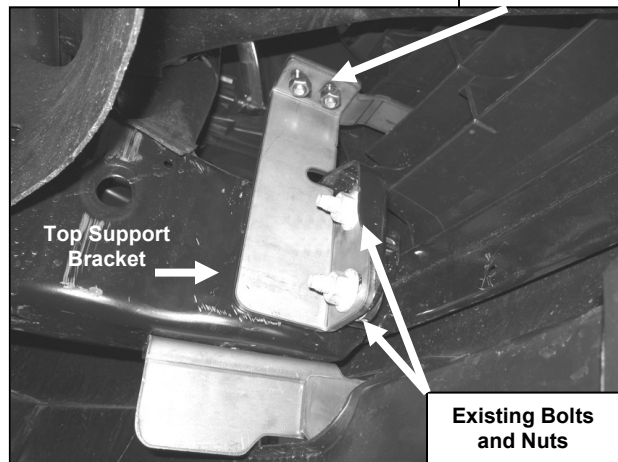

Figure 2
6. From underside of vehicle, remove the two existing nuts from the inner side of front bumper mounts. Position driver side Top Support Bracket through existing front bumper mount bolts. Secure Support Bracket using the factory nuts (Figure 2). Tighten these bolts at this time.